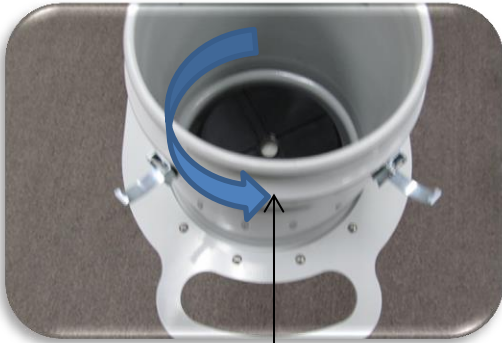

Figure 5:
2. Rotate the 2nd stage HEPA filter counter clockwise to remove. **Figure 5**